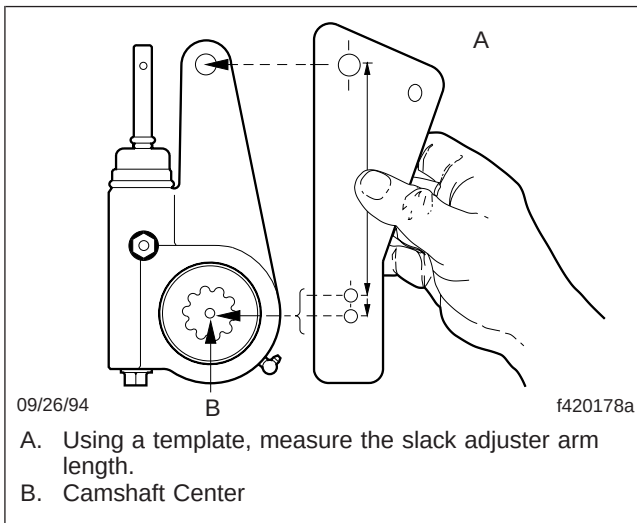

Fig. 5, Slack Adjuster Measurement
- 7.1 Using an installation template, measure the old and new slack adjusters. Measure from the center of the large clevis-pin hole to the center of the camshaft opening. See Fig. 5.